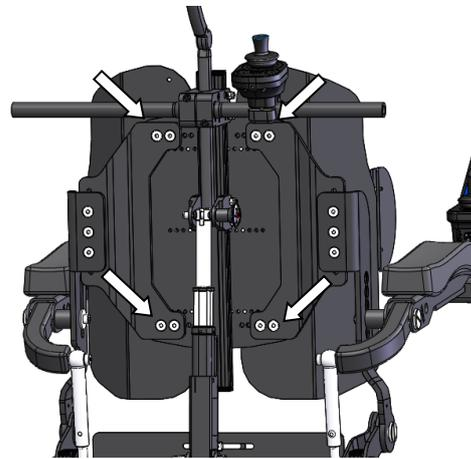

Figure 14 : adjustment width backrest & armrests
- Using a 5 mm hexagonal 6-sided wrench, loosen the four armrest width adjustment screws on the same side as before. (See figure 14)